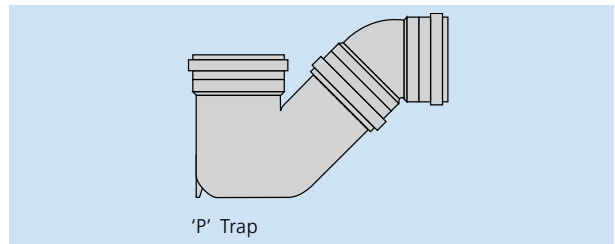

Fig. 20
- Use 4DG90 Gully Trap and 4D25D Bend 45° (Fig. 20)